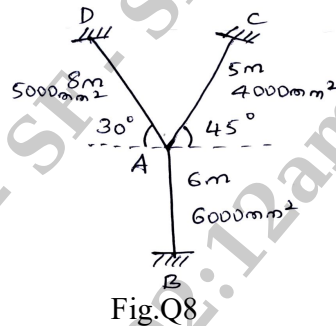

Fig.Q8
- 8 In the pin jointed frame shown in Fig.Q8, all the members are cooled upto 20°C. Take $\alpha = 1.2 \times 10^{-5}/^{\circ}\text{C}$. $E = 2 \times 10^5 \text{ N/mm}^2$ for all members. Find the displacements and forces in all the members.